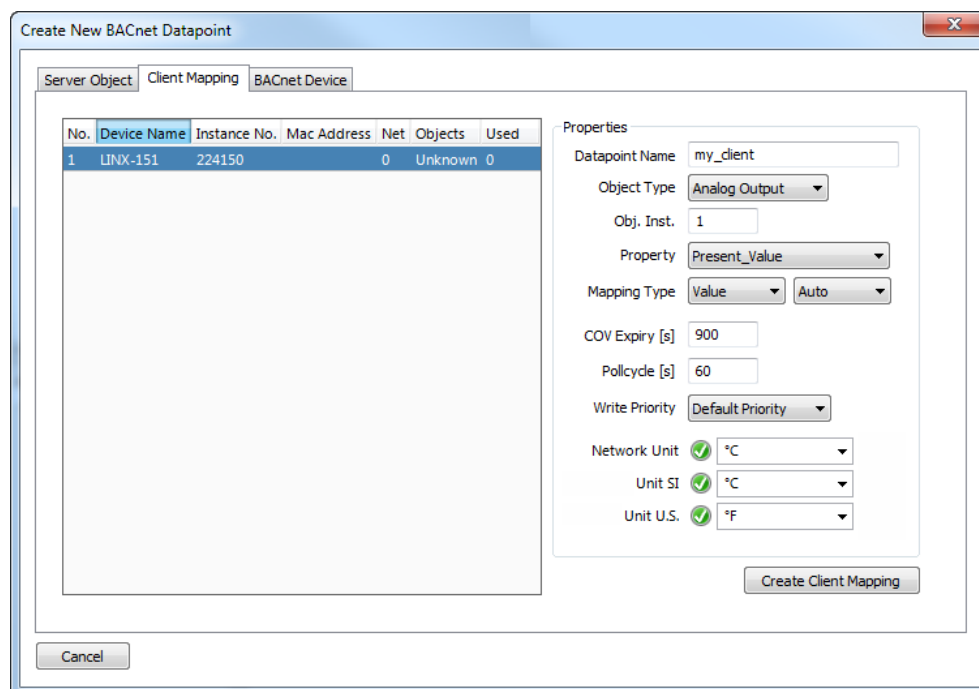

Figure 197: Create Client Mapping Dialog.
- Right-click in the data point list and select **New Datapoint...** in the context menu. This opens the **Create New BACnet Point** dialog as shown in Figure 197.